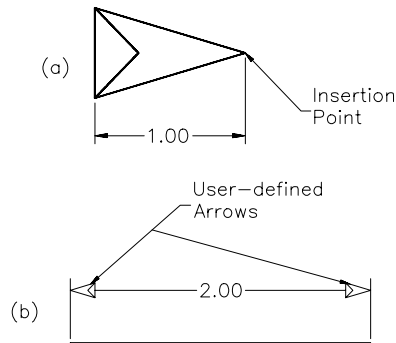

Figure 10-10 Creating user-defined arrows
1. To create a block for an arrowhead, you will use a 1 X 1 box, see Figure 10-10. AutoCAD automatically scales the block's X and Y scale factors to arrowhead size multiplied by the overall scale. The **DIMASZ** variable controls the length of the arrowhead. For example, if **DIMASZ** is set to 0.25, the length of the arrow will be 0.25 units. Also, if the length of the arrow is not 1 unit, it will leave a gap between the dimension line and the arrowhead block.
3. The insertion point of the arrowhead block must be the point that will coincide with the extension line, see Figure 10-10.